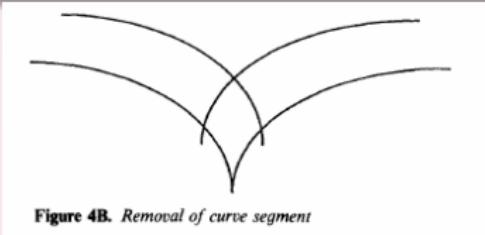

Figure 4B. Removal of curve segment
- (fig. 4B) Suppression de segments